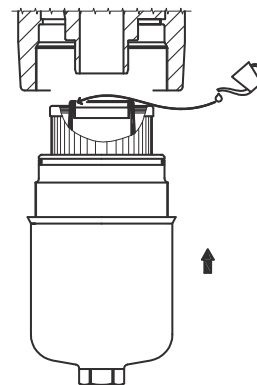

Fig. 4
- 5 Lubricate the filter element seal with the operating fluid before installing the new filter element (see fig. 4).